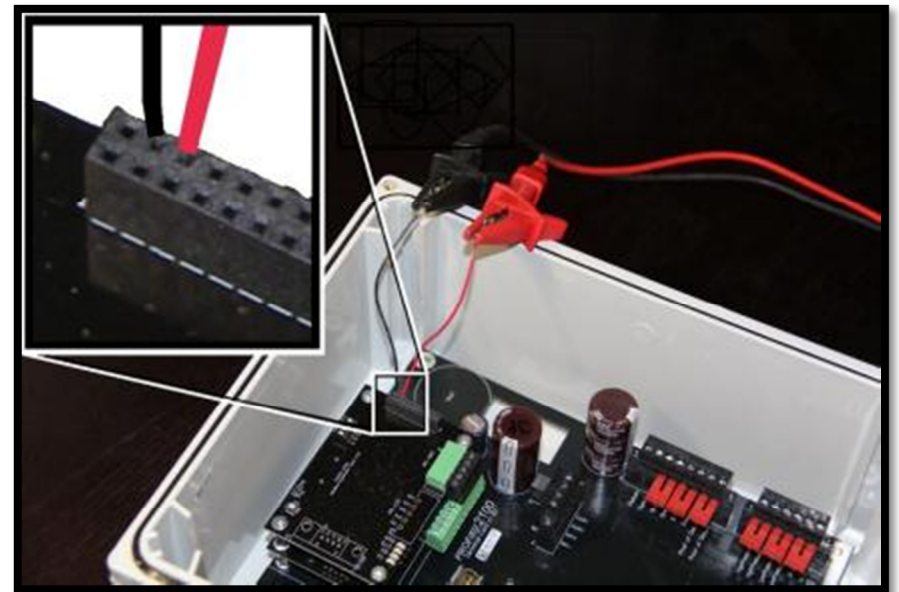

Figure 14
- Using a multimeter, probe pins 4 and 6 on header P1 as illustrated in Figure 14 to verify that 3.5V is present.